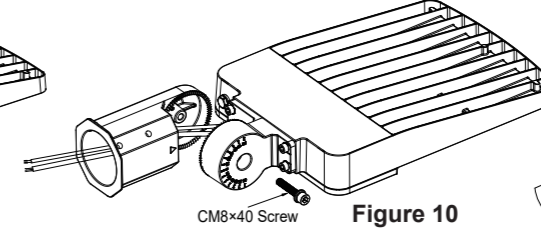

Figure 10
2. Feed Luminaire cord through SP lower bracket and secure the lower bracket to the upper bracket with CM8x40 screw, Figure 10.